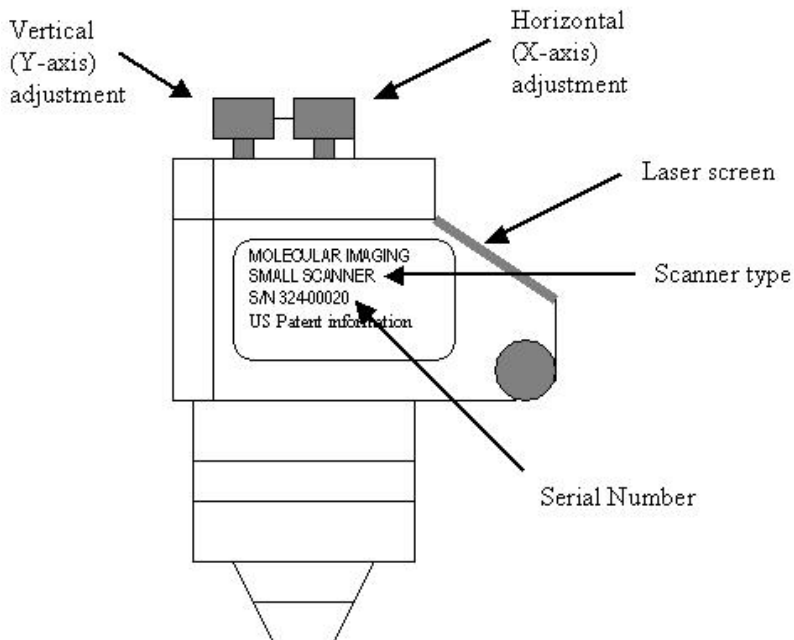

Figure 5.8
7. Under **Scanner** on the main menu select the scanner calibration file that matches the serial number of the scanner being used. See Figure 5.8 below for the location of the serial number.